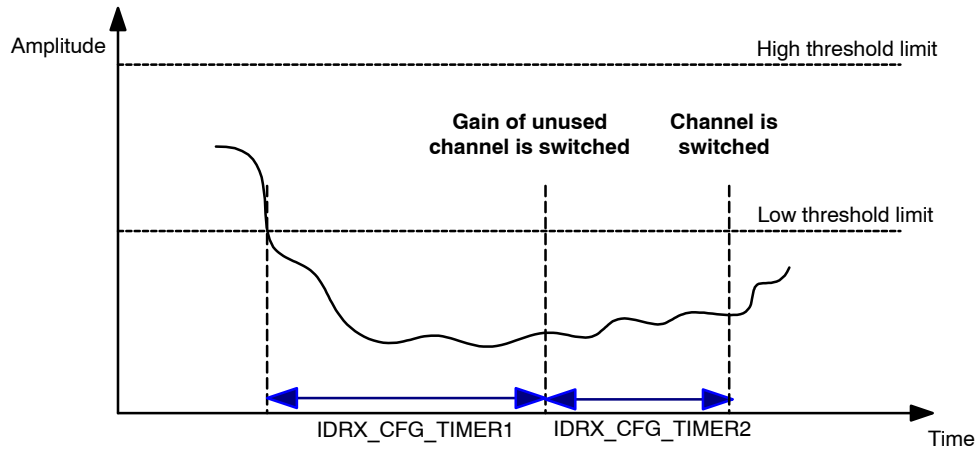

Figure 4. Channel is Switched
- ◆ If the timer T2 reaches **IDRX_CFG_TIMER_2** and the amplitude is still below the low threshold limit, the IDRX block switches to the new channel. This is shown in Figure 4.